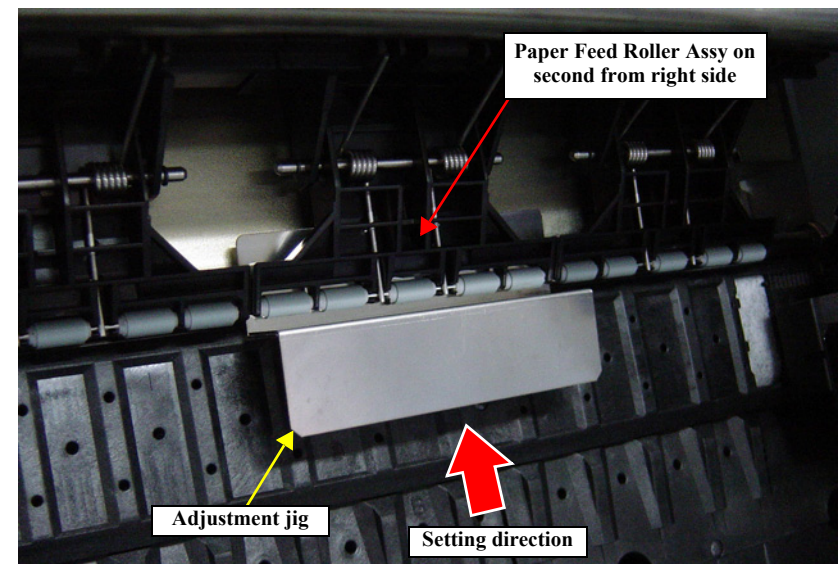

Figure 5-55. Position for the thickness tool (0.5 in thickness)
12. Insert the adjustment jig (0.5) from the paper insertion opening, and set it to the position shown in Figure 5-55, then press the **[Paper Set]** button.